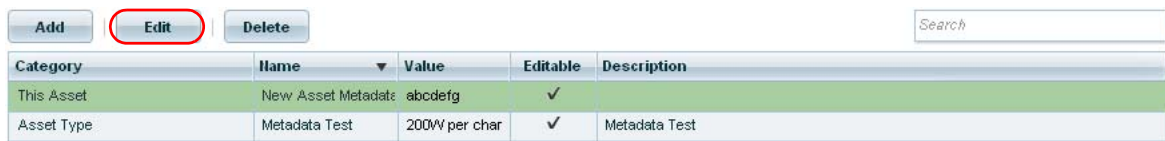

FIG. 254 Asset Management page - Edit button
1. In the *Asset Management* page - **Asset Metadata** tab, select an entry in the Asset Metadata table, and click the **Edit** button (FIG. 254).